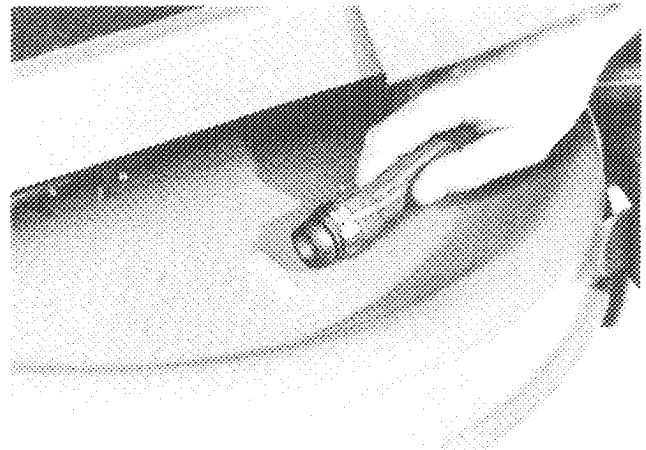

Figure 30
4. Move blade control forward, to the right and into ENGAGE detent. Using moderate water pressure, have someone else put end of hose – without nozzle – near wash-out port opening (Fig. 30). Allow blade and water to run for approximately 2 minutes; then move blade control backward, to the right and into DISENGAGE detent. Also shut engine off.